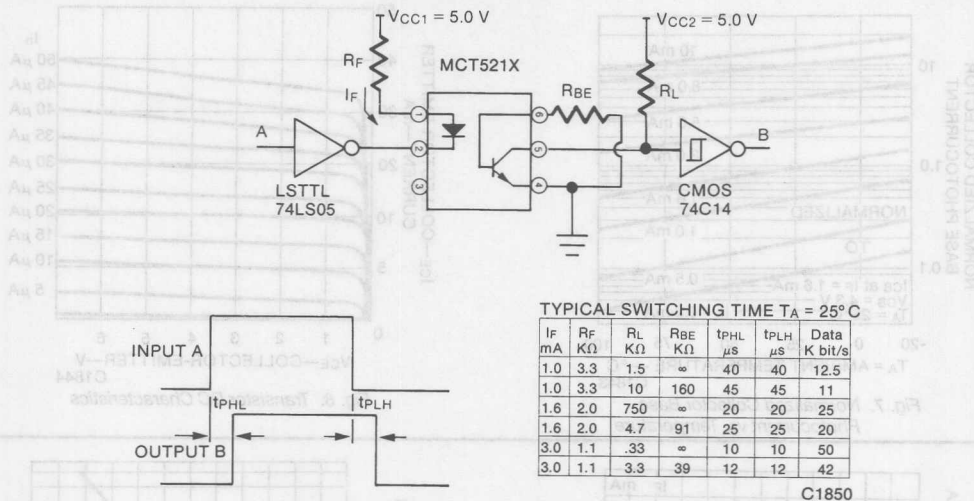

Fig. 13. Switching Speed Test Circuit
3. Referring to Figure 13 the t_{PHL} propagation delay is measured from the rising edge of the data input (A) to the rising edge of the rising edge of the data output (B).
4. Referring to Figure 13 the t_{PLH} propagation delay is measured from the falling edge of data input (A) to the falling edge of the data output (B).